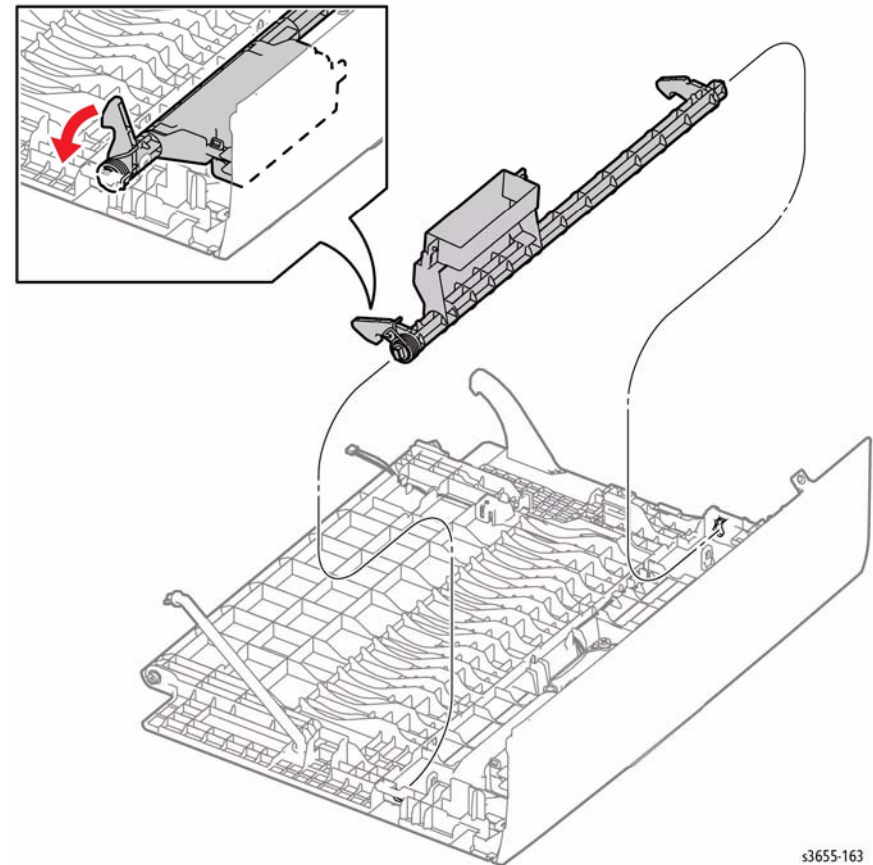

Figure 2 Remove the Rear Cover Latch
7. Refer to Figure 2 to remove the rear cover latch assembly.